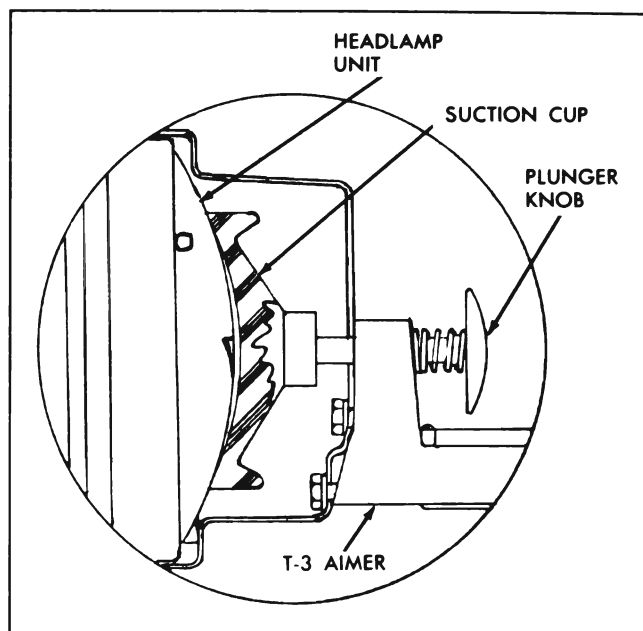

Figure 10-50—Attaching Aimer
4. Secure Aimer to each headlamp unit by pressing plunger knob firmly. See Figure 10-50. Rotate arm to approximately horizontal position.